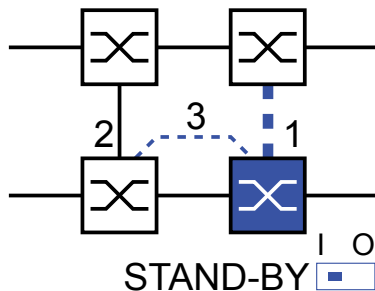

Figure 39: Two-Switch coupling with control line
- ☐ Select two-Switch redundant coupling with control line (see fig. 39).